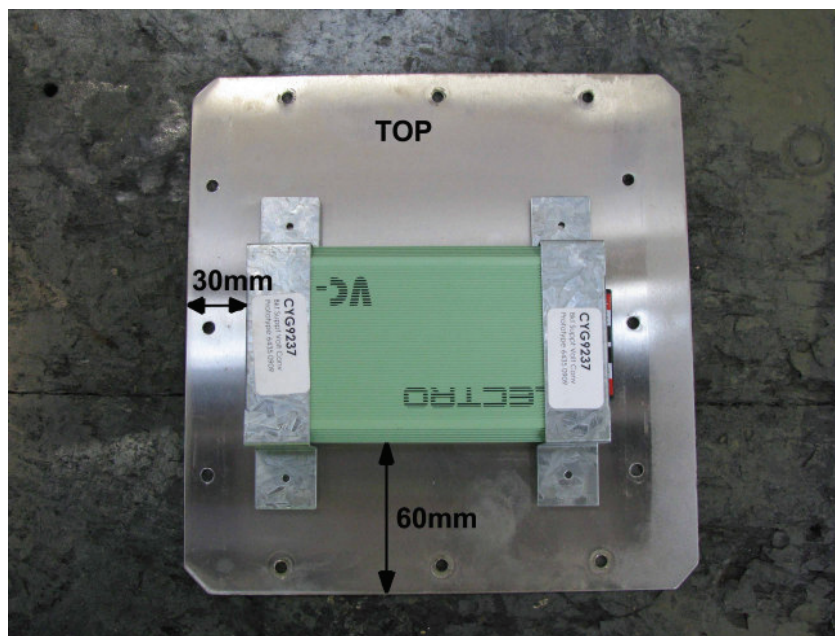

Figure 4 Bracket Position
- j. Place the new voltage converter onto the backing plate (Figure 4).
- k. Position the two brackets (Table 1, Serial 3) over the voltage converter (Figure 4).